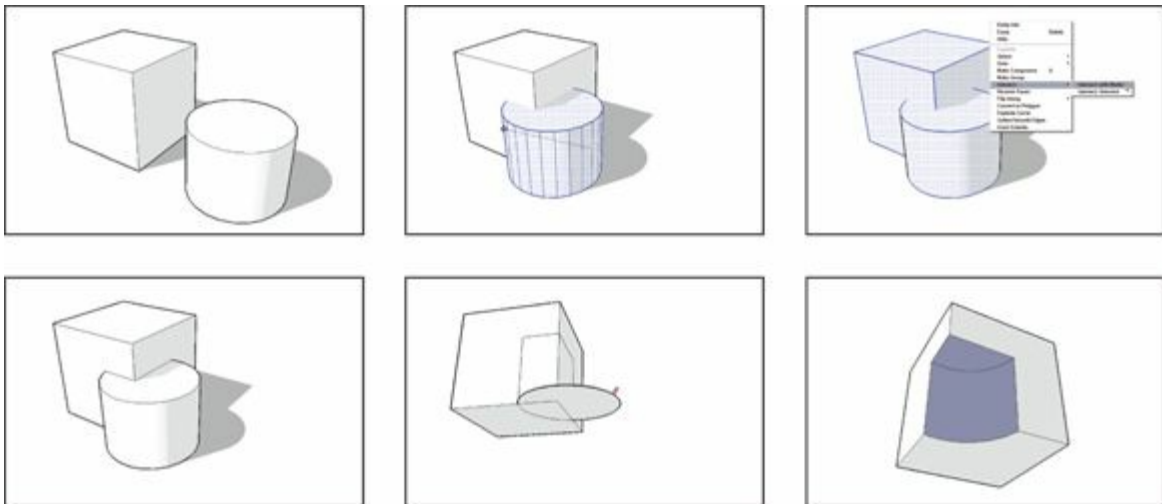

FIGURE 4-38: Using Intersect Faces to cut a partial cylinder out of a cube.
- » **Intersect Faces makes new geometry from existing geometry.** It takes faces you've selected and creates edges wherever they intersect. Figure 4-38 shows what we mean: Perhaps you want to make a model that's a cube with a cylinder-shaped chunk taken out of it. You'd model the cube and model the cylinder. After positioning them carefully, you can then use Intersect Faces to create edges where the two shapes' faces come together. After that, the Eraser can remove the edges you don't want — the rest of the cylinder, in this case.